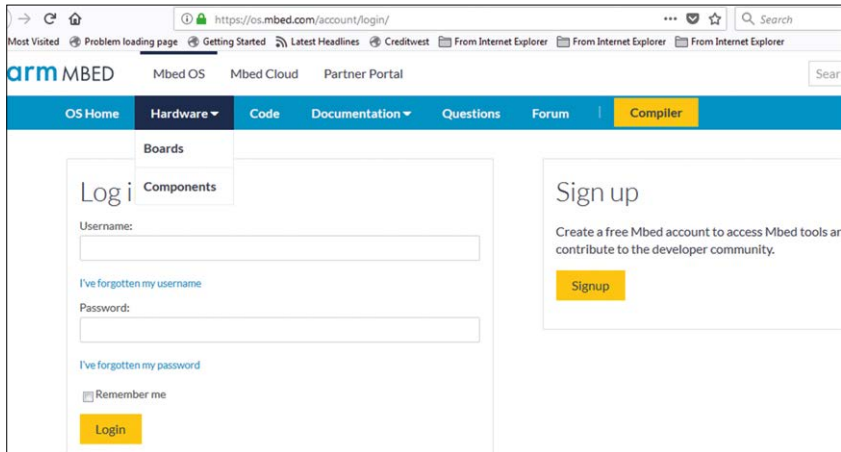

Figure 3.5: Mbed registration/login screen.
- Register to Mbed through the following link. Figure 3.5 shows the Mbed registration/login screen. Click **Signup** at the right-hand side and enter your details: <https://os.mbed.com/account/login/>